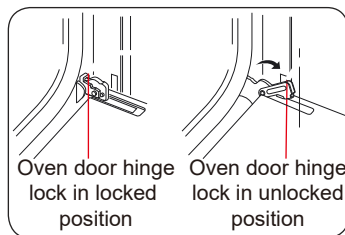

Fig.21
3. Locate the oven door hinge locks in both corners of the oven door, and then rotate the hinge locks toward the oven door to the unlocked position. If the door hinge lock is not rotated fully (see Fig.21 on the left for an example of full rotation), you will not be able to remove the door properly.
5. Locate the oven door hinge locks in the corners of the oven door, and rotate the hinge locks toward the oven cavity to the locked position. See Step 3 (Fig.21) in the “Removing the oven doors” section for the proper locked position.